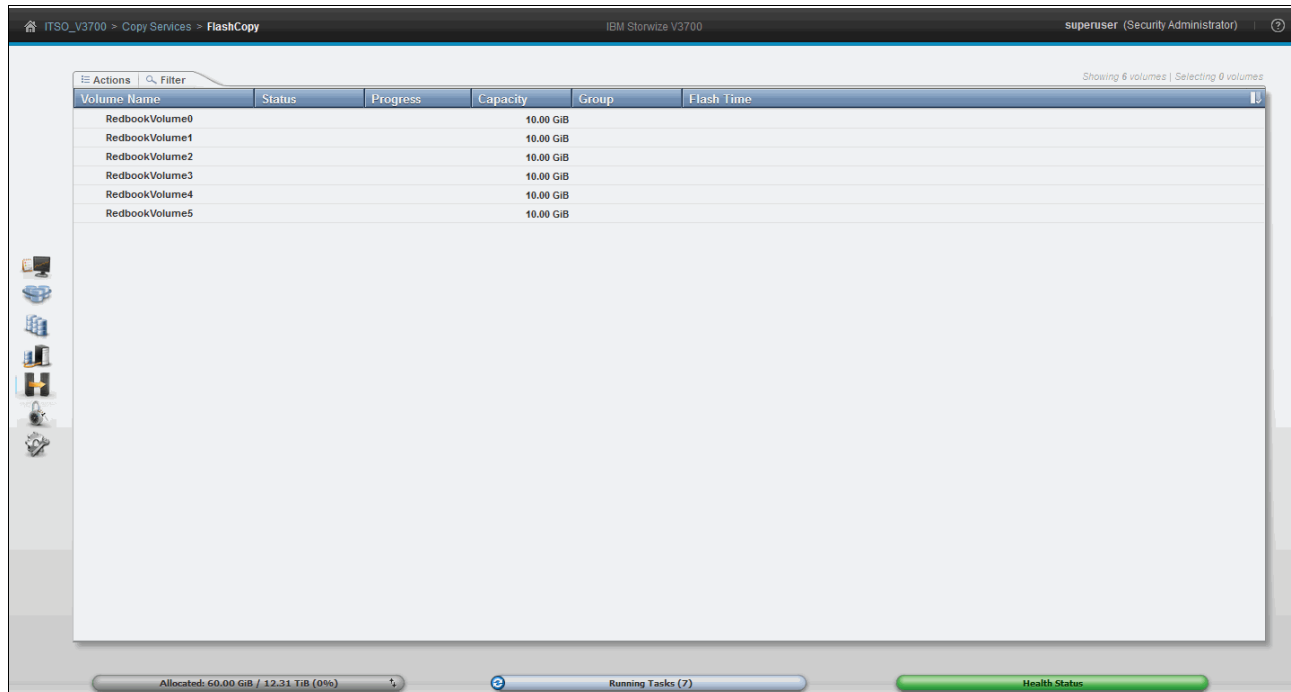

Figure 10-5 FlashCopy window
1. Click **FlashCopy** in the Copy Services function icon menu and the FlashCopy window opens, as shown in Figure 10-5. The FlashCopy mappings are organized by volumes.